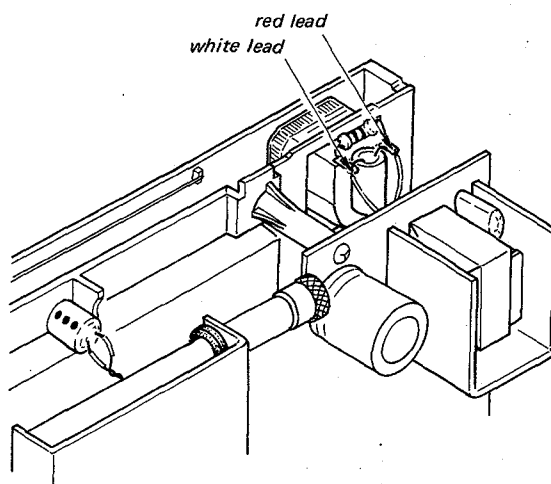

Fig. 2-9 IF-AF circuit board removal, step 5
5. Unsolder the two leads which are connected to the tuning meter shown in Fig. 2-9.